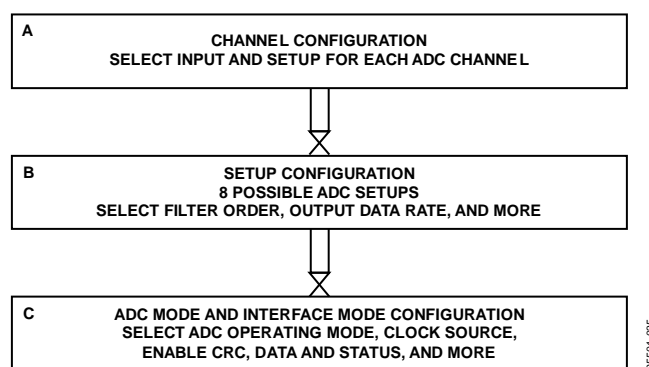

Figure 37. Suggested ADC Configuration Flow
Figure 37 shows an overview of the suggested flow for changing the ADC configuration, divided into the following three blocks:
- Channel configuration (see Box A in Figure 37)
- Setup configuration (see Box B in Figure 37)
- ADC mode and interface mode configuration (see Box C in Figure 37)